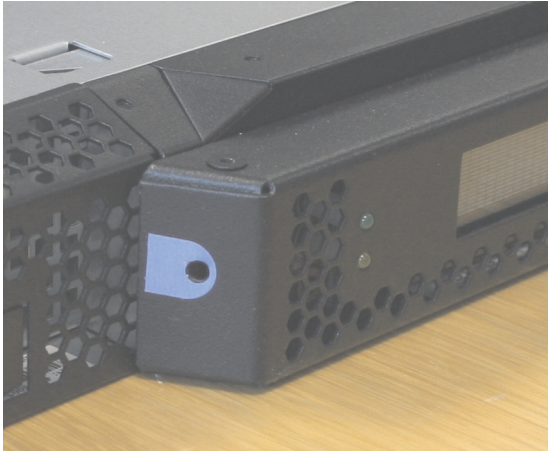

Figure 77. SAN Volume Controller 2145-8A4 service controller release button
3. Locate the recessed service controller release button on the left side of the controller, which is marked in blue, as shown in Figure 77.